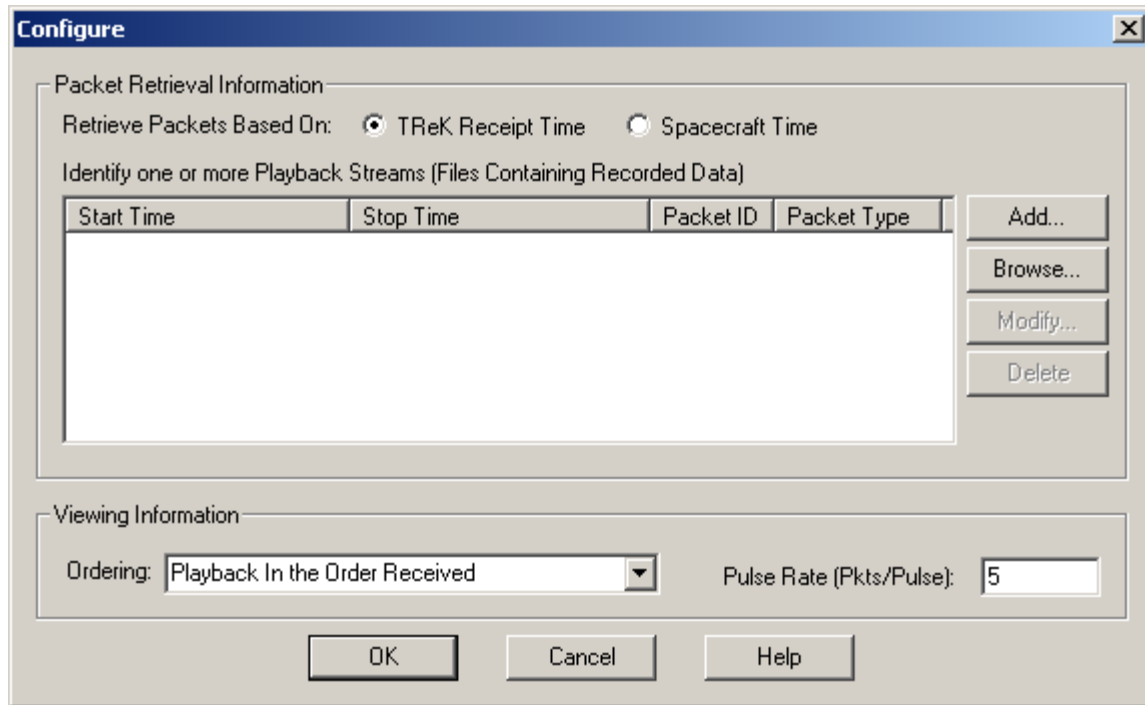

Figure 36 Configure (Recorded Data Viewer) Dialog
2. In the **Recorded Data Viewer** dialog push the **Configure** button. The dialog shown in Figure 36 will be displayed.